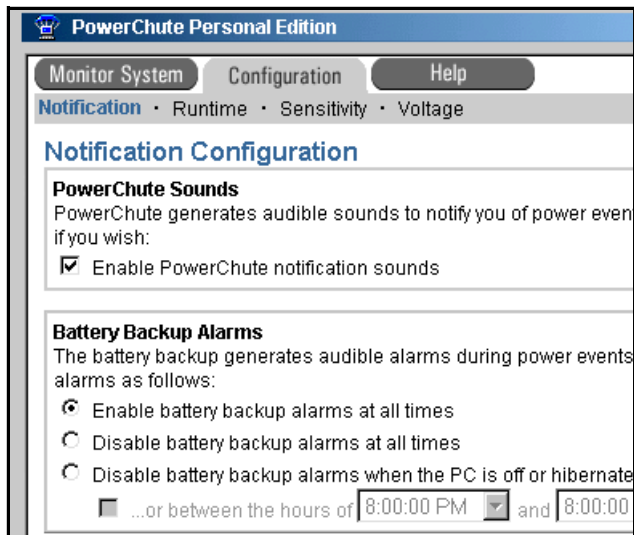

FIG. 2
2. Select the Configuration Tab. In the **PowerChute Sounds** box select "Enable Power Chute notification sounds". In the **Battery Backup Alarms** box select the "Enable battery backup alarms at all times". See FIG. 2.